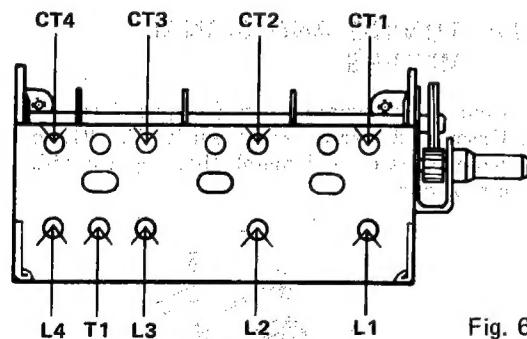

Fig. 6
7. Adjust L4 core first, then adjust cores of L1, L2, L3 for maximum reading on VTVM and so that tuning meter indicates center position (Fig. 6).